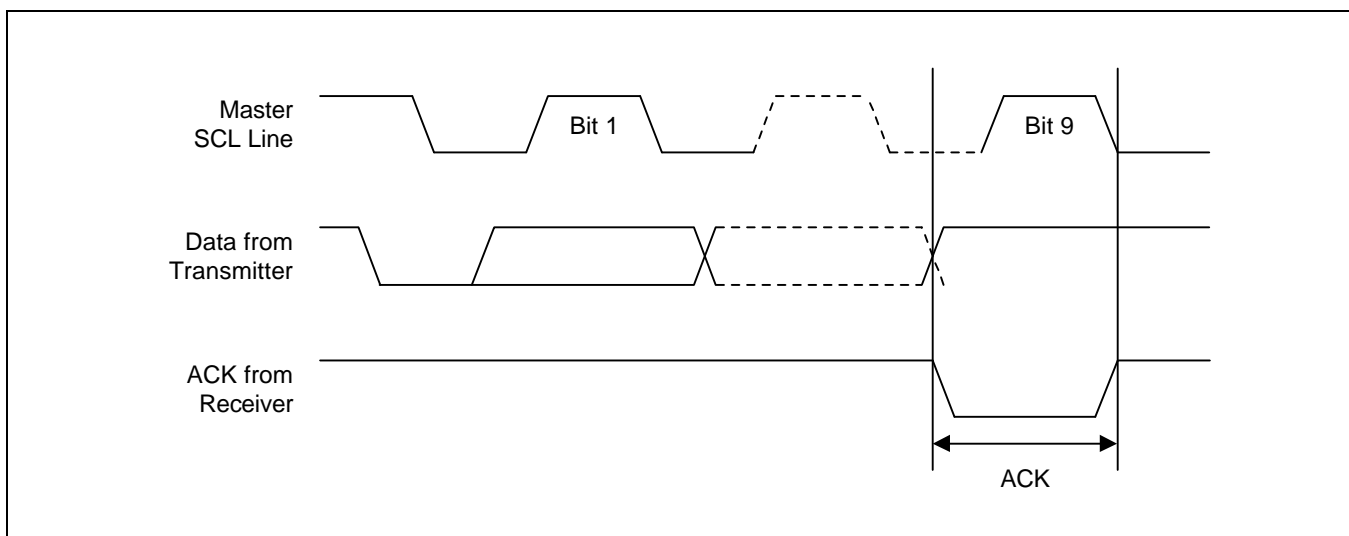

Figure 8-8. Acknowledge Response from Receiver
- **ACK (Acknowledge):** An ACK signal indicates that a data transfer is completed successfully. The transmitter (the master or the slave) releases the bus after transmitting eight bits. During the 9th clock, which the master generates, the receiver pulls the SDA line low to acknowledge that it has successfully received the eight bits of data (see Figure 8-8). But the slave does not send an ACK if an internal write cycle is still in progress.